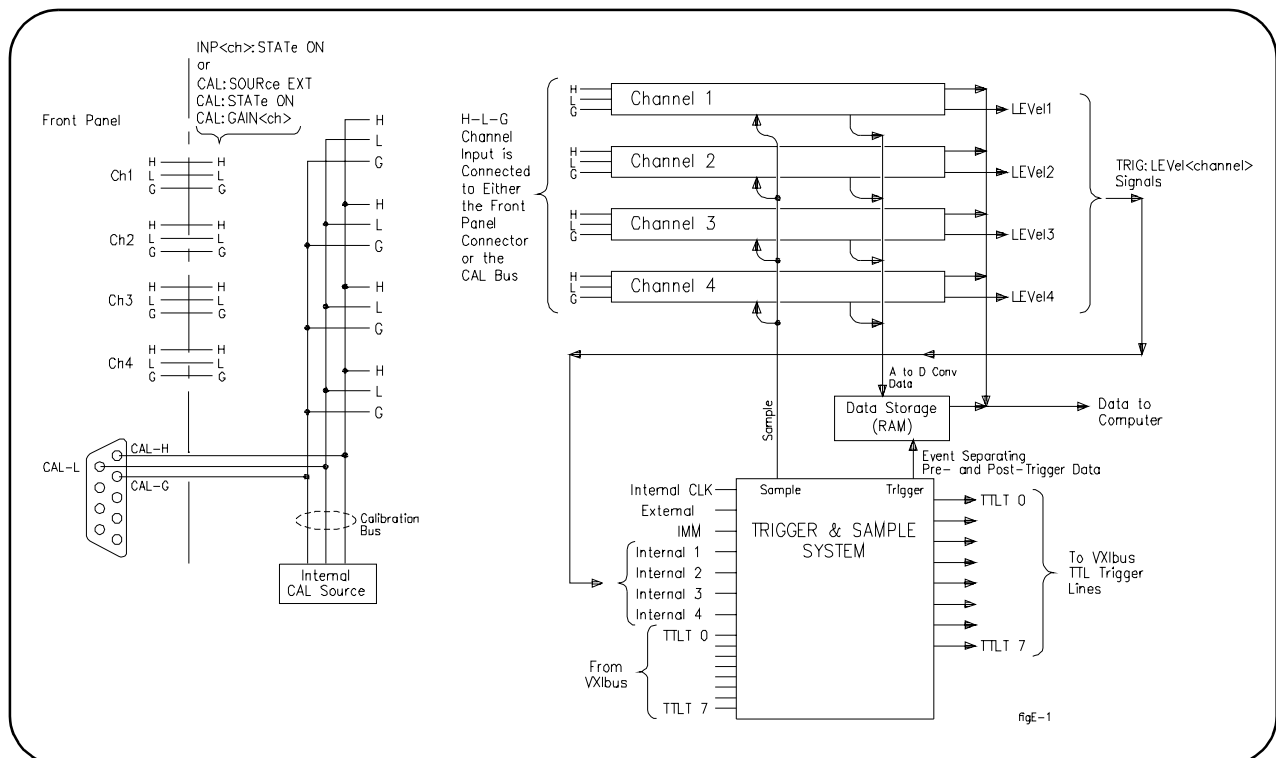

Figure E-1. E1564A Gain Adjustment Voltmeter Connections
- 2 Connect a voltmeter to the Calibration Bus Output on the front panel D-connector (see Figure E-1). Set the voltmeter to the DCV function.